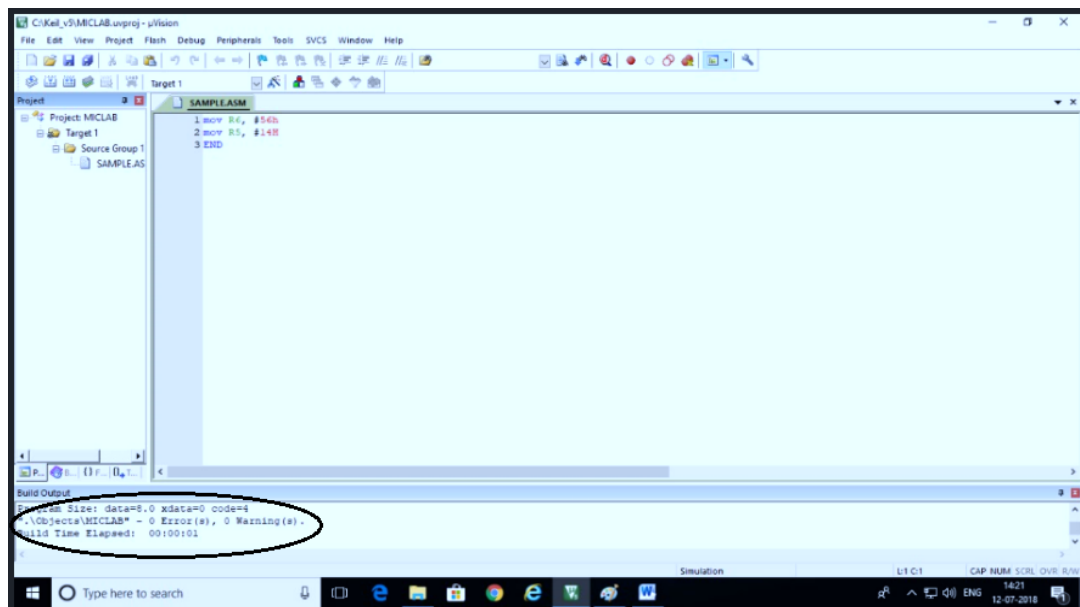

Figure 4.9: Debugging Window
13. Output window will display the errors if any. If there are some errors, then remove the errors and repeat from step number 12 until no errors. (refer Figure 4.9)